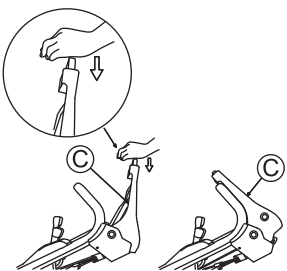

Fig. 21.
3 Push Blade lever (C) forward while pressing its yellow button. (See Fig. 21.) Then, the blade starts rotating.